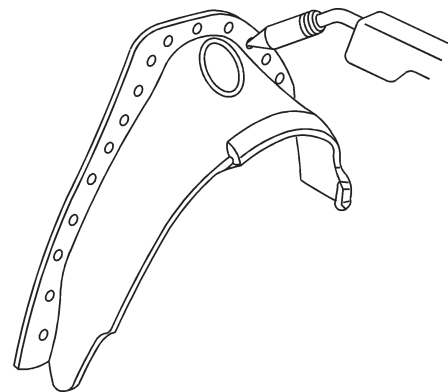

Fig. 4.32 — Plug Weld
- 3 Prepare mating surfaces and position the service part. Check for proper fit and plug weld accordingly (Fig. 4.32). Take care not to warp or distort the metal.